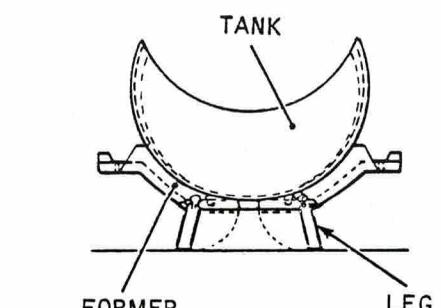

FIGURE 1
3.1 Handling trolley (26DK/95866) (See Fig.1). Position under fuselage.
3.6 Locking tube assemblies with spring and locking plates (forward and rear), (See Fig.1). (i) Fit, ensuring minimum of 6.5 complete turns, using fingers. (ii) Torque-tighten to 450 PLUS 50 MINUS 0 lbf in. using torque wrench (1C/1202795) and Bi-hex socket (1L/9106392).